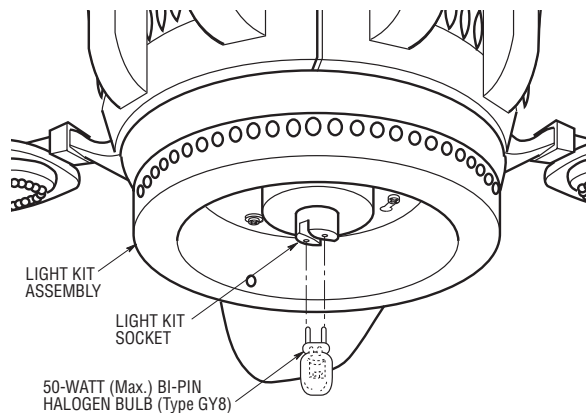

Figure 18
1. Install the 50-watt (maximum) bi-pin (Type GY8) halogen bulb (supplied) into the light kit socket (Figure 18). Do not touch the glass bulb; use the porcelain base to screw in the bulb, or wear gloves.